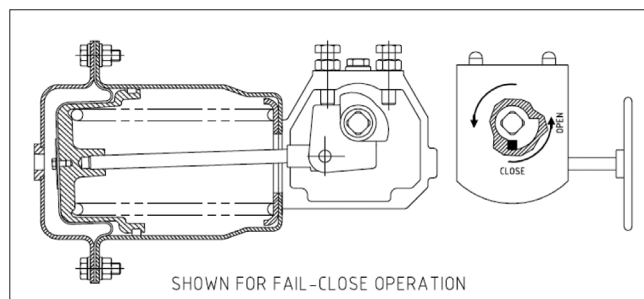

Figure 9.
1. Using thread sealant, attach the fusible plug (3) and pipe nipple (1) into the street tee as shown in **Figure 9**.
2. Insert this assembly into the plug guard (4) and secure using the screw (5), lock washer (6), and hex nut (7).